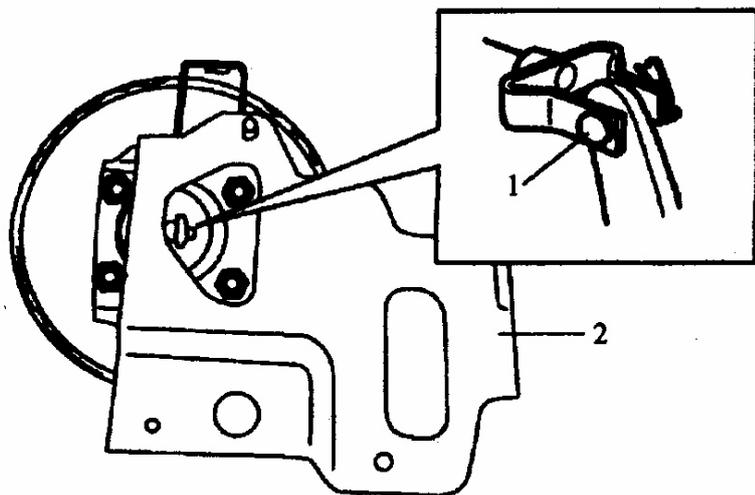

FIG.16-64 1. Pedal bracket assembly 2. Split pin
- (1) Remove master cylinder refer to steps (1) ~ (9) of master cylinder removal.
- (2) Disconnect vacuum hose from booster.
- (3) Remove vacuum pipe from brake pedal bracket.
- (4) Remove clutch cable. (Refer to correlative section)
- (5) Remove wiring from brake lamp switch.
- (6) Check if there are other parts connecting to pedal bracket, remove if necessary.
- (7) Remove pedal bracket mounting bolt and nut from front room, then remove pedal bracket with booster. Remove B-pin and split pin connecting booster push rod crevice to pedal arm, then remove booster attaching nuts. Take down booster from pedal bracket. (FIG.16-64)
- (1) Install booster to dash panel. Then connect booster push rod crevice to pedal arm with pin and split pin. (FIG.16-64) Torque booster attaching nuts to specification. (TABLE16-10)